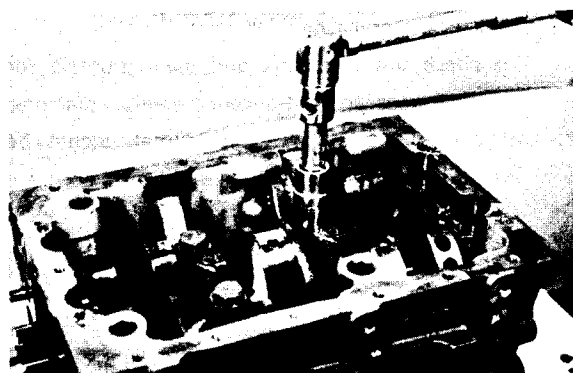

Figure 101
4. Remove the main bearing caps (Fig. 101). Keep each set of bearings together with its bearing cap.